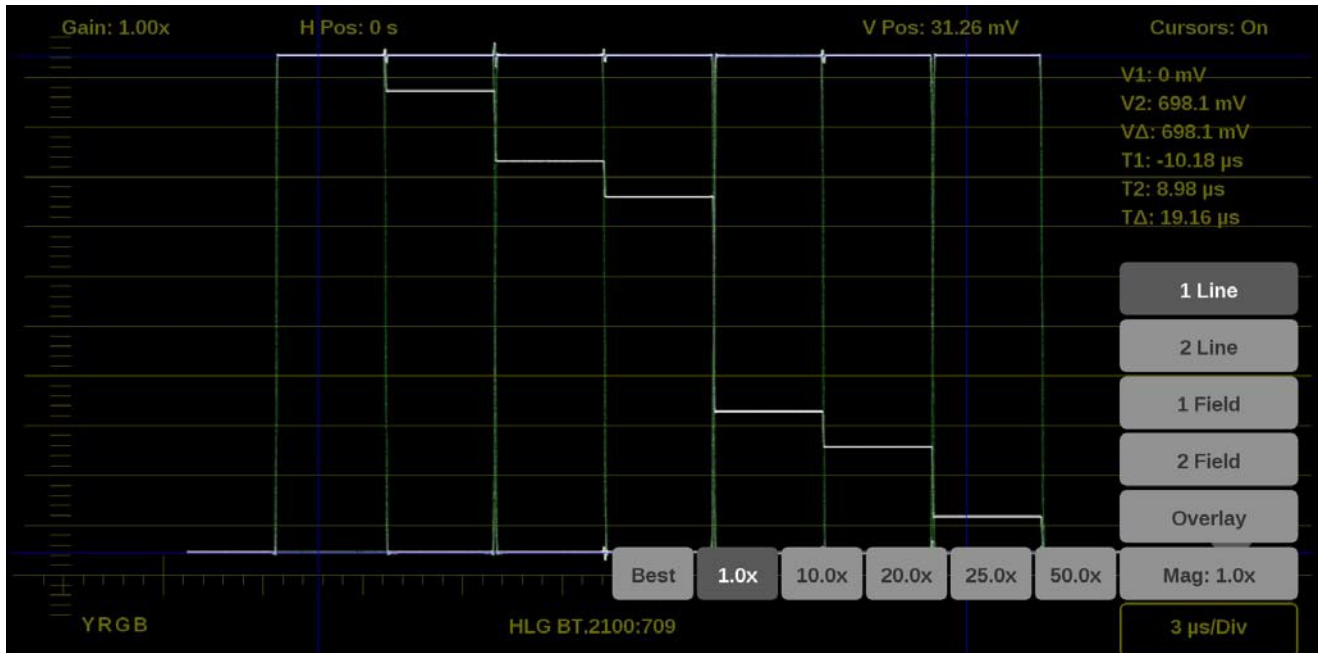

Figure 97: Waveform on-screen tools – display format
1. Select the button in the bottom right corner of the application to expand the available display format options. (See Figure 97.)